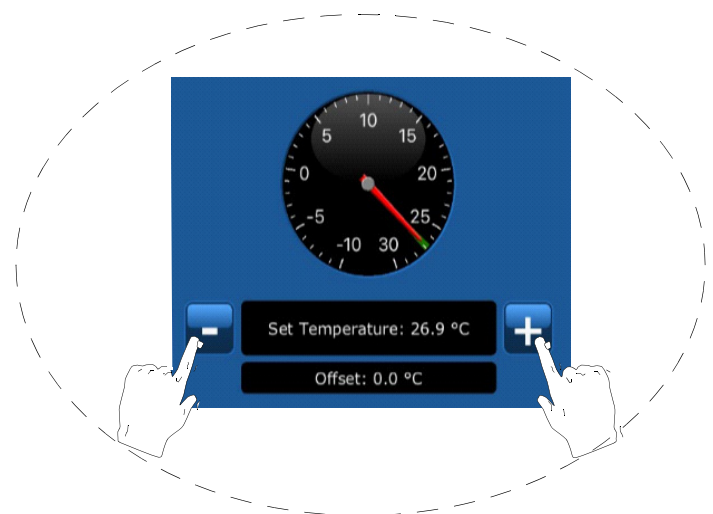

Figure 14. Calibrate the Temperature function
3. Touch **Advanced** (Figure 14).